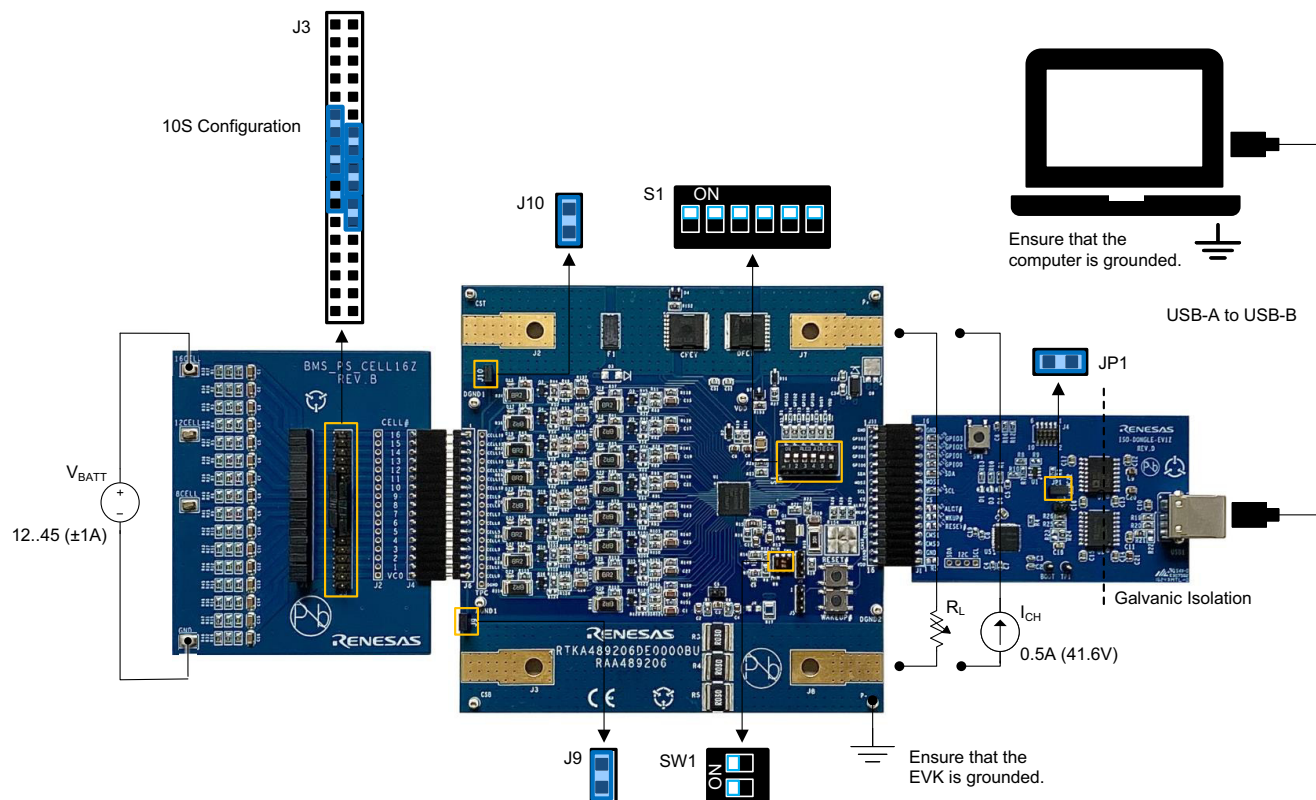
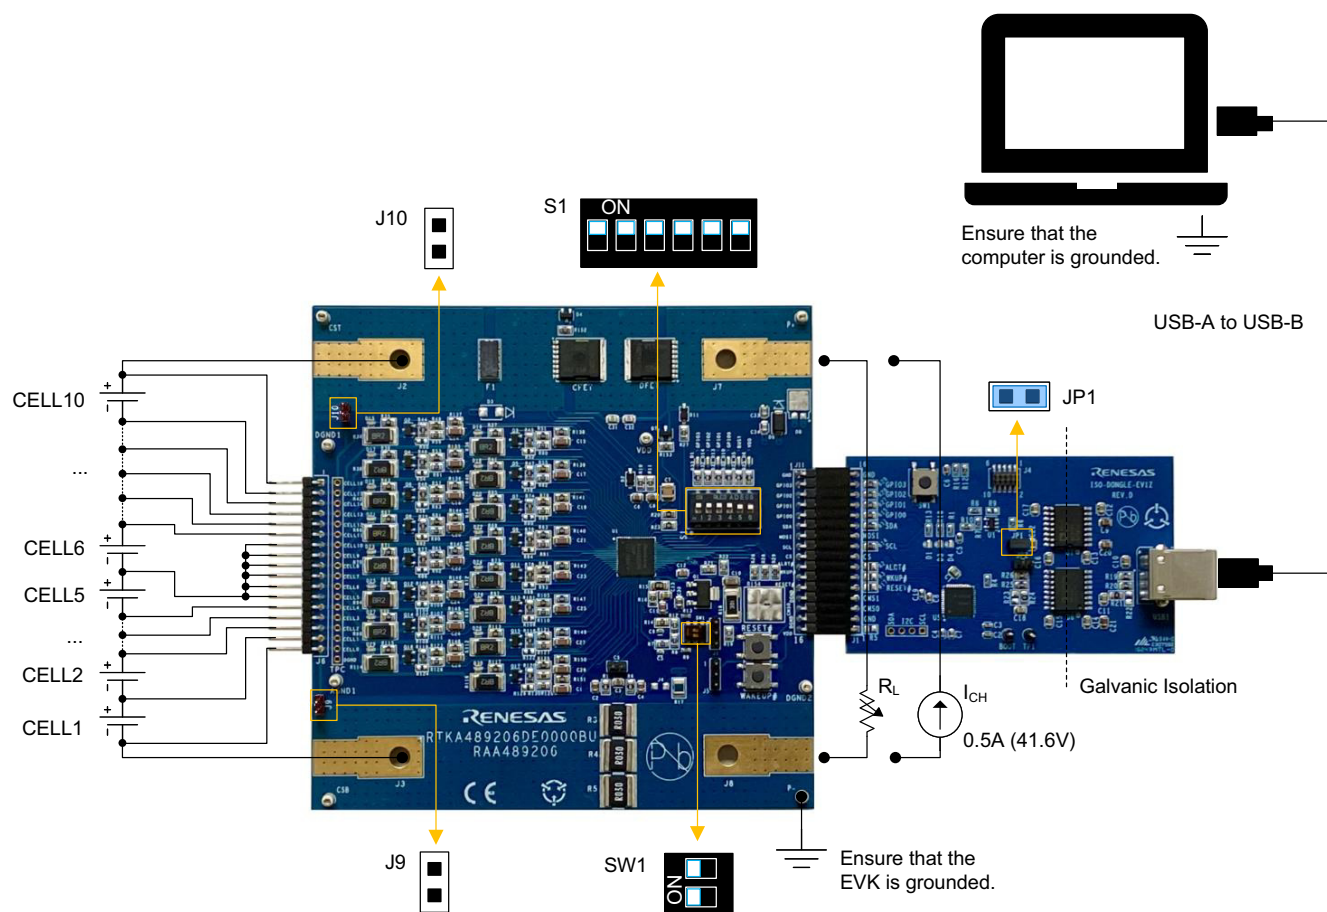
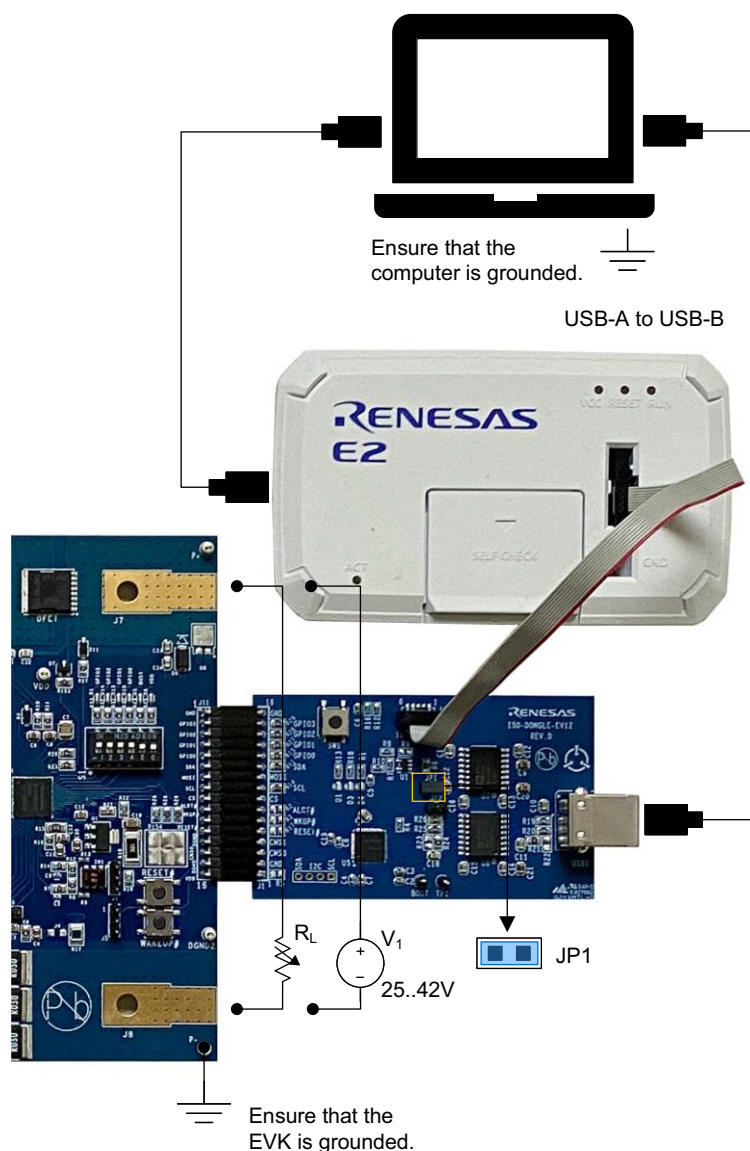

Figure 2. R-BMS B for RAA489206 Test Setup using a Battery Emulator (Resistor Ladder)
Figure 3. R-BMS B for RAA489206 Test Setup using Li-Ion Battery Cells
Figure 4. R-BMS B for RAA489206 Test Setup with E2 Emulator
Figure 2 shows the test setup when using a battery emulator. VBATT is the four-quadrant DC power supply powering the BMS-PS-CELL16Z (Rev.B) battery emulator. Verify that additional jumpers are installed on header J3 as shown on the diagram to reconfigure the ladder to emulate ten cells in series. On the BMIC evaluation board, RTKA489206DE0000BU jumpers J9 and J10 must be available so that the charge and discharge currents flow through header J11 and the battery emulator board. The position of switches S1 and SW1 must resemble Figure 2. Ensure that jumper JP1 on the isolated communications dongle ISO_DONGLE_EV1Z Rev.D is available. Connect the DC electronic load RL or the DC power supply ICH (charger) between J7 (Batt+) and J8 (Batt-). **Note:** If the outputs of load and charger are disabled, the impedance of the terminals can trigger the load detection circuit or result in a high current pulse when the CFET and DFET are turned on. The communications dongle provides a galvanic isolation; however, it is a good practice to also ground the connected computer.
Figure 3 shows the test setup when using ten Li-Ion battery cells, connected in series. The positive and negative terminals must be connected to terminals J2 and J3 of the BMIC evaluation board RTKA489206DE0000BU to provide a high current path for the charge and discharge currents. Ensure that jumpers J9 and J10 are removed! The measurement terminals of the cells must be connected to header J11 as shown on the figure. Ensure that pins #6 to #12 of header J11 are shorted together to reconfigure the evaluation board for 10S. Always verify the correct pinout on the battery side with a multimeter before connecting the evaluation board. The position of switches S1 and SW1 must be as shown in Figure 3. Ensure that jumper JP1 on the isolated communications dangle ISO_DONGLE_EV1Z Rev.D is available. Connect the DC electronic load RL or the DC power supply ICH (charger) between J7 (Batt+) and J8 (Batt-). Keep in mind that even if the outputs of the load or charger are disabled, the impedance of the terminals can trigger the load detection circuit or result in a high current spike when the CFET and DFET are turned on! The communications dangle provides a galvanic isolation. However, it is a good practice to ground the connected computer.
Connecting a debugger tool to both test setups is possible from Figure 2 and Figure 3 as demonstrated on Figure 4. The debugger tool (E2/E2 Lite emulator) allows examining the R-BMS B software on a lower level and observing the system behavior in detail. The debugger must be connected directly to the 10-pin JTAG connector J4 of the communications dongle ISO_DONGLE_EV1Z Rev.D. **Caution:** Keep the correct direction of the flat cable connector and do not rotate it 180 degrees.
2. Connect the BMS_PS_CELL16Z REV.B battery emulator, RTKA489206DE0000BU BMIC evaluation board, and ISO_DONGLE_EV1Z Rev.D isolated communications dongle (see Figure 2). Ensure that all jumpers are installed and all the switches are in the correct position.
5. **Optional:** Execute this step only when using a debugging tool. Connect the E2 emulator to the communication dongle and to the computer (see Figure 4).
- a. Set the electronic load to consume 0.5A, enable the output, and connect it to the RTKA489206DE0000BU BMIC evaluation board (see Figure 2). The system detects the low impedance of the load and wakes up (see Figure 6).